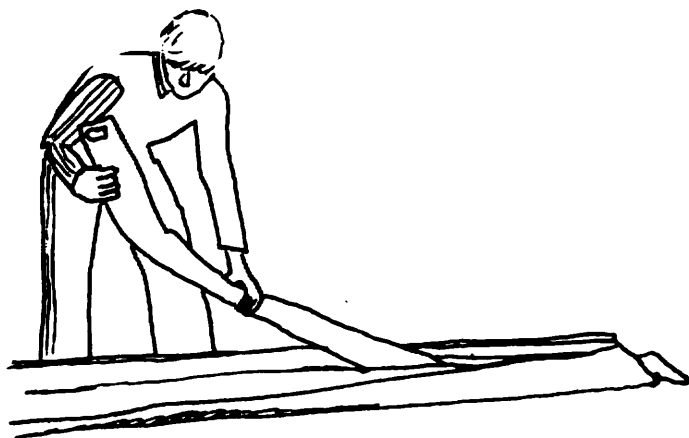

Fig 2
- 2) Undo the zipper, and remove the battens from between the rear leading edges as shown. (Fig 2)